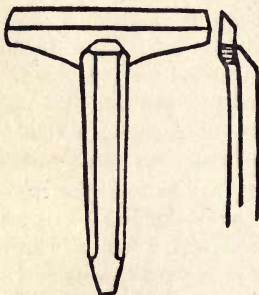

FIG. 55.
**Using the Hatchet Stake for Folding.**—A special stake has been devised for folding tin. This is called the hatchet stake and is listed in the supplementary tool list. It is made in the shape of the letter T. The horizontal part is made like a long narrow-bladed hatchet, and the vertical shank attached to it may be held in the vise or set in a hole in the bench, see Fig. 55.